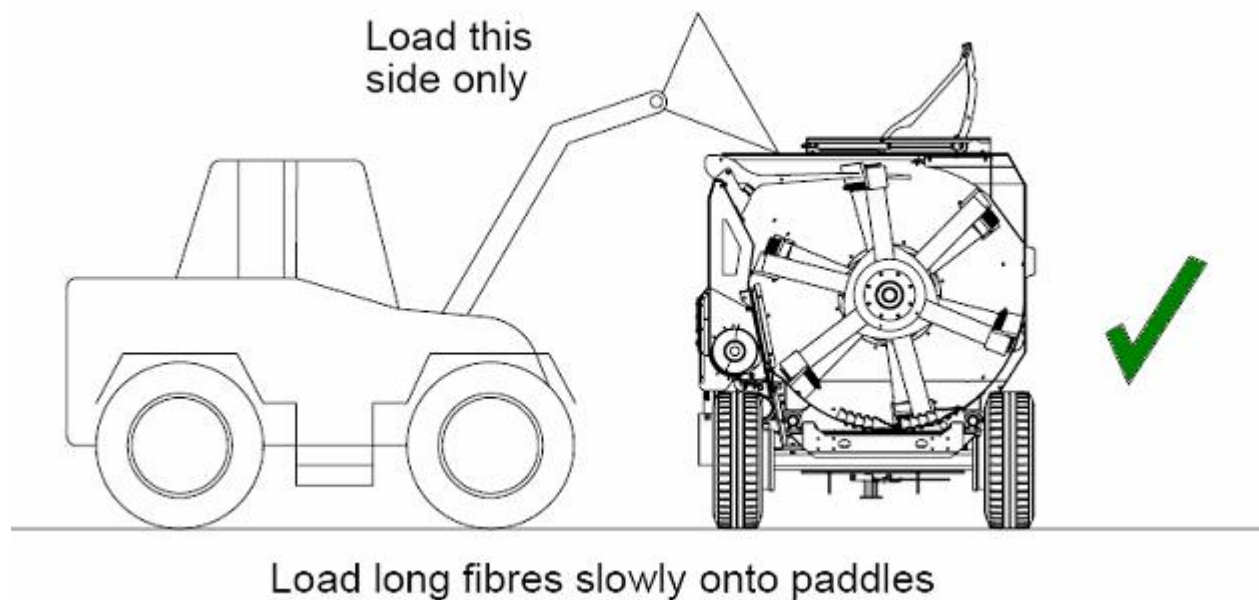

Figure 8: Loading the Keenan Mech-Fiber mixer wagon
- n) Load only from the side indicated – see figure 8 (auger chamber side), using suitable equipment.